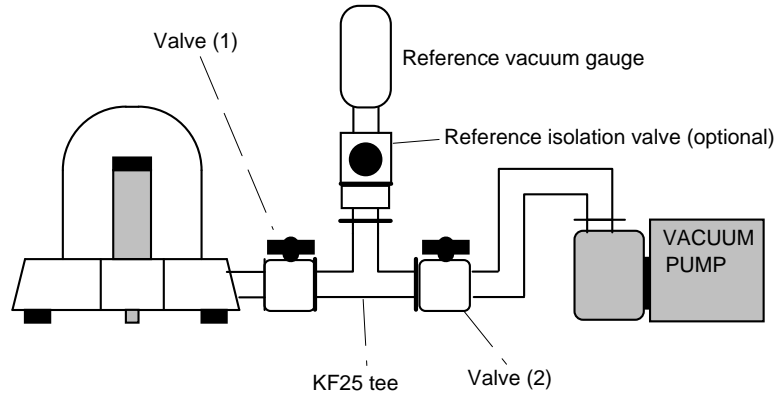

Figure 43. Vacuum gauge calibration setup
The vacuum gauge is calibrated by comparison to a vacuum reference. The calibration is performed without removing the gauge from the PG7601-AF platform. The reference gauge vacuum is attached to the PG7601-AF platform KF25 vacuum port (see Figure 43 .) The procedure requires that measurements be taken in static conditions, in which the reference and test vacuum gauges are isolated from the vacuum pump.
To compare the PG7601-AF vacuum gauge and a reference vacuum gauge, proceed as follows (refer to Figure 43):
- 3 Install a vacuum valve, valve 1 (see Figure 43), at the PG7601-AF KF25 vacuum port (valve 1 is provided with the PG7601-BAS-AF).
Install a KF25 tee at valve 1 (see Figure 43).
Install a vacuum valve, valve 2, at the end of the tee (see Figure 43) (valve 2 is NOT provided with the PG7601-BAS-AF).